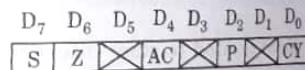

Fig. 1.
**Ans.** It is an 8-bit register, in which five of the bits carry significant information in the form of flags : S (Sign flag), Z (Zero flag), AC (Auxiliary Carry flag), P (Parity flag) and CY (Carry flag) as shown in Fig. 1.